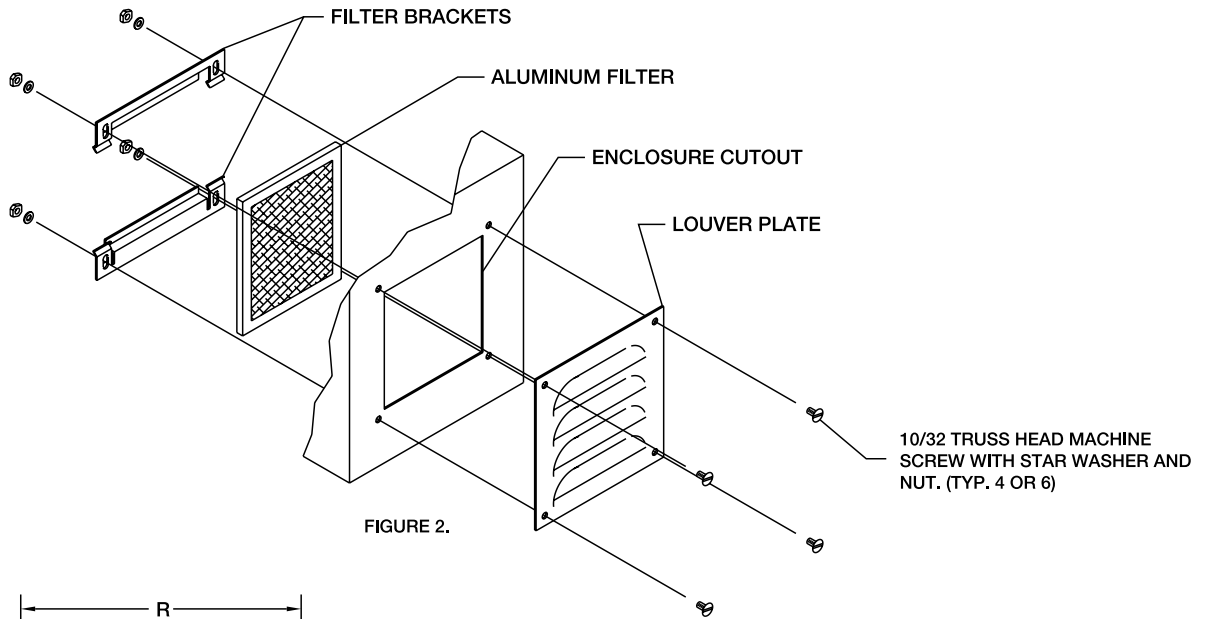

FIGURE 2.
4. Assemble louver kits and/or filter kits as shown in figure 2.